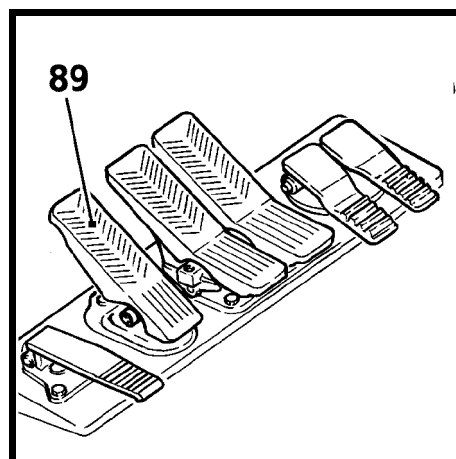

Fig. 49
This pedal (Fig. 49, pos. 89) can be actuated progressively while working, this allowing a more sensitive deceleration or positioning of the uppercarriage (necessary as an example when working on a slope, lifting loads, ...).